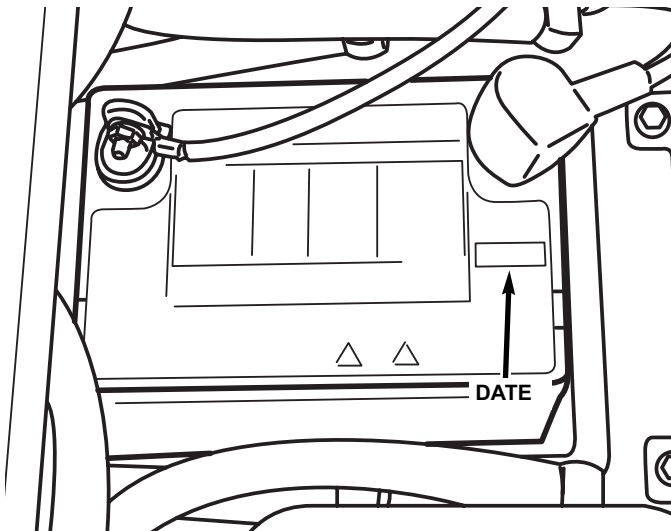

FIGURE 5.17
3. Check date on battery label. See Figure 5.17. If battery is placed into service after the date shown, charge battery. Refer to section "BATTERY CHARGING".